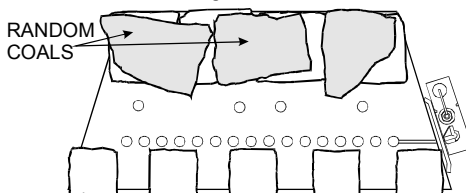

Figure 34
2. Next place the **random coals** over the previously laid coals, as shown in **Figure 34**, ensuring that they are stable in position.